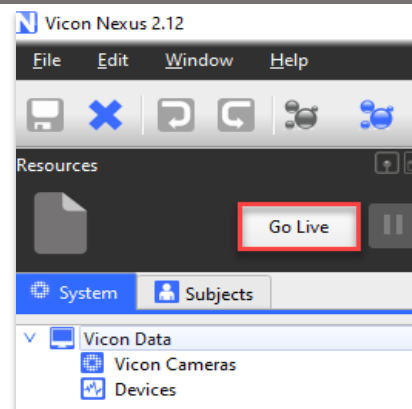

Figure 16: Entering Live mode in Vicon Nexus.
4. Open Vicon Nexus and place into *Live Mode*, if not already selected (Figure 16).